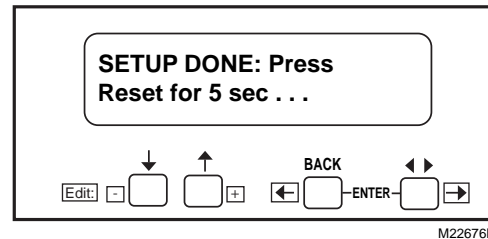

Fig. 12. Setup Done screen.
2. Press the down arrow to confirm the correct post-purge time. “Getting Data” will be displayed until the screen in Fig. 12 appears.